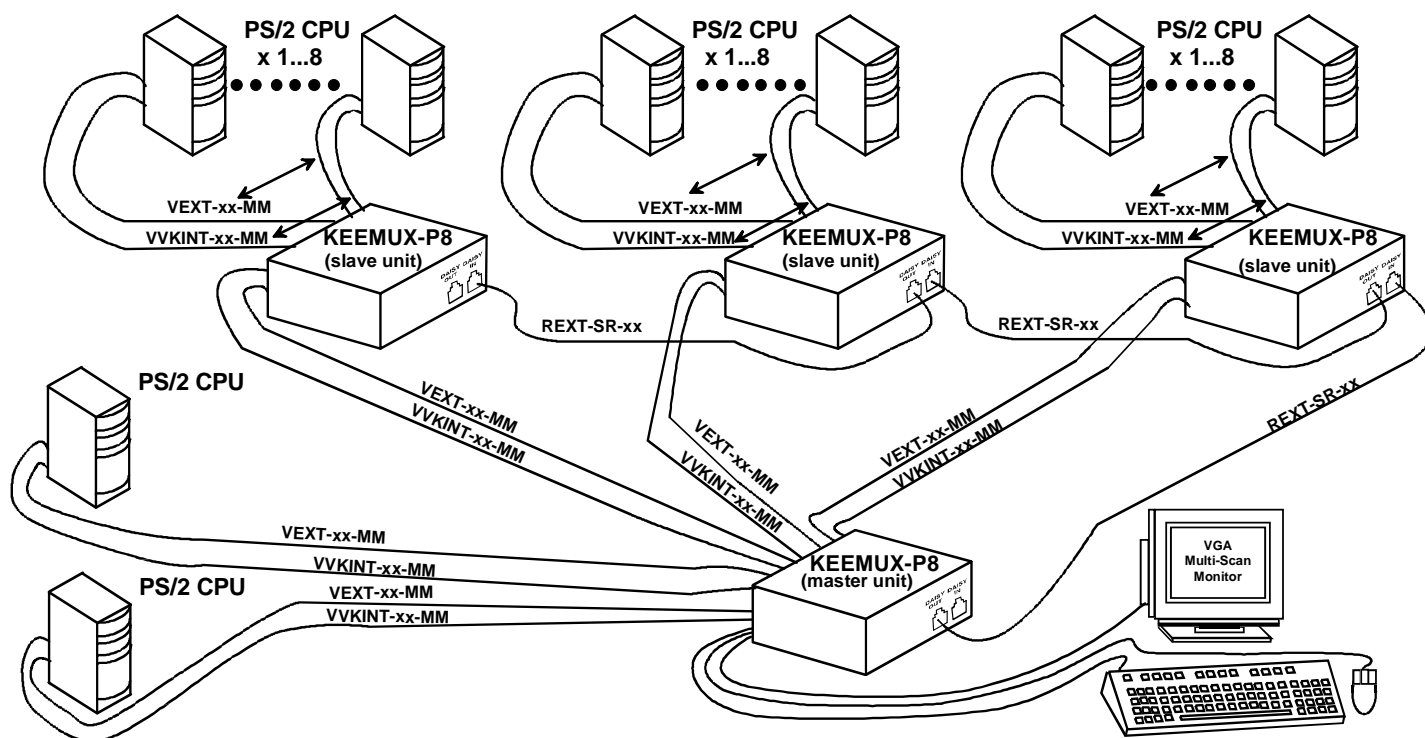

Figure 5- Cascaded configuration
The KEEMUX switch can be expanded to access up to 152 CPUs by cascading multiple units together, as illustrated below. The KEEMUX connected to the monitor and keyboard must be configured as the “master unit” (via dip-switches—see page 6). Any switches connected to the master unit must be configured as “slave units”. All KEEMUXs are fully configurable for this expansion method. The only additional hardware required is a set of keyboard, monitor, mouse, and RMT extension cables for each slave unit (see Fig. 5 below).
**Please note:** If the switches are being cascaded (such as that illustrated in Fig. 5 on page 5 under “Cascading”), make note of which port each of the CPUs is connected to on each slave and which port each slave is connected to on the master.